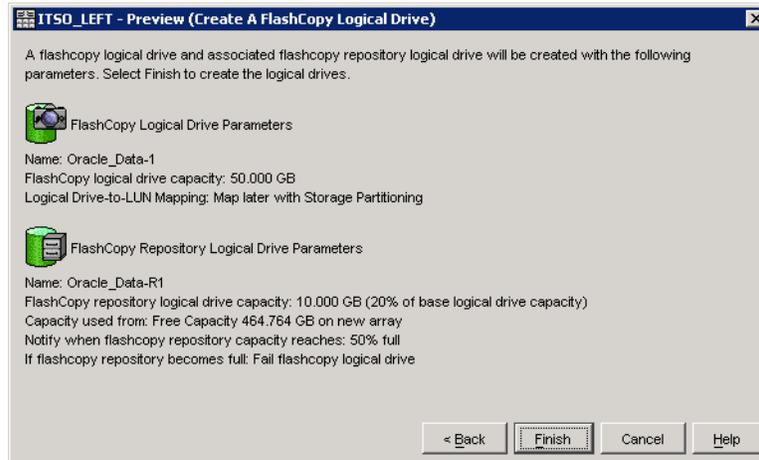

Figure 7-20 Create FlashCopy Logical Drive Wizard: Preview
- e. The Preview window (Figure 7-20) now opens and shows the FlashCopy and repository parameters. It allows you to click **Back** to return to the previous windows and edit the parameters or to click **Finish** to continue. Notice that there is more information regarding logical drive parameters than was displayed in the Preview window when the simple path was used. The extra details associated with creating a new array from unconfigured space for the repository logical drive are shown in Figure 7-20.